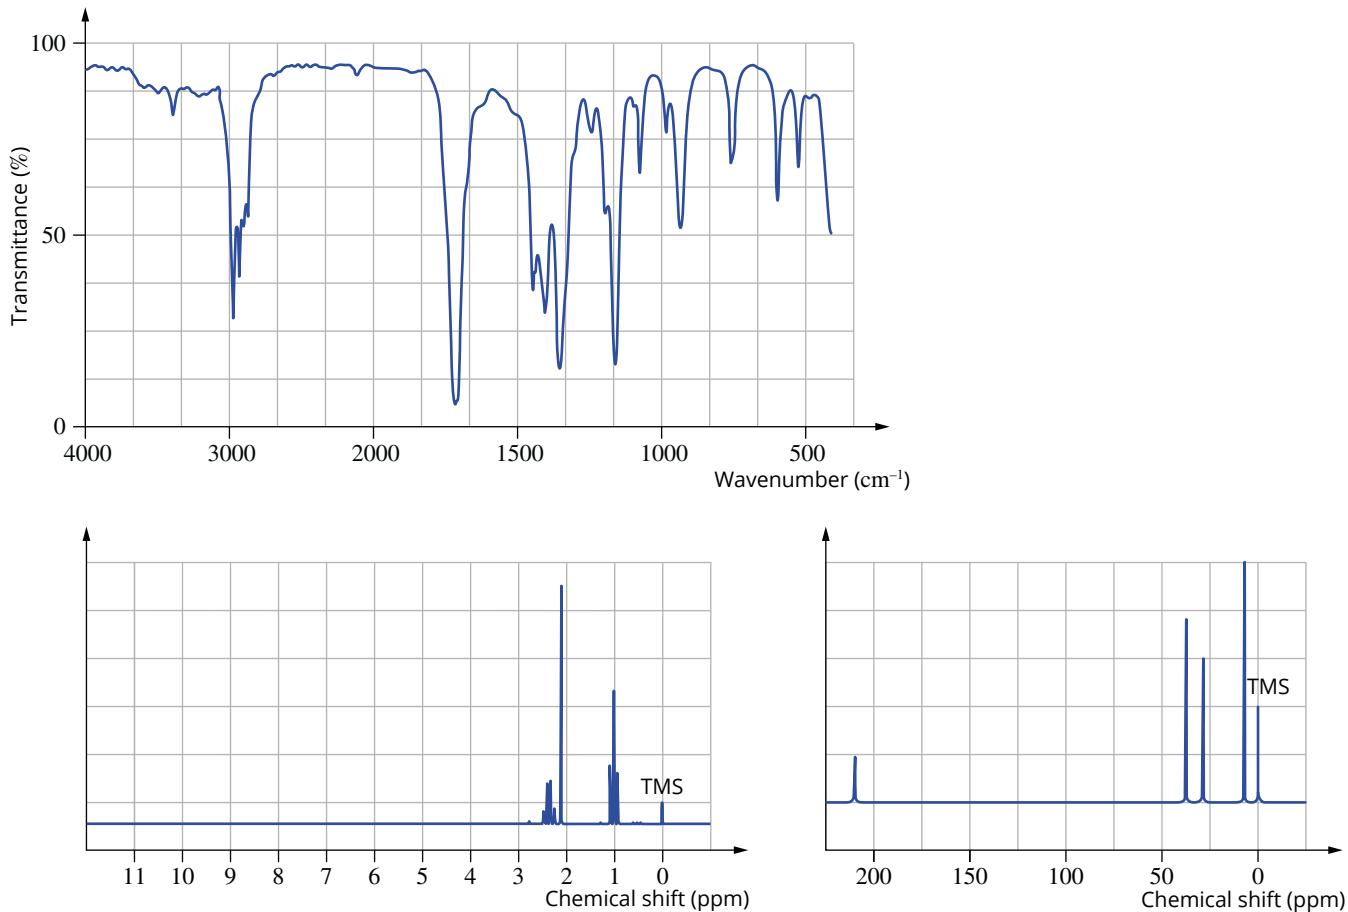

FIGURE 12.4.6 Spectra for an unknown molecule.
- 1 An industrial solvent has the molecular formula C_4H_8O . Use the infrared, proton NMR and carbon-13 NMR spectra in Figure 12.4.6 (on page 408) to determine the semistuctural formula of this molecule.